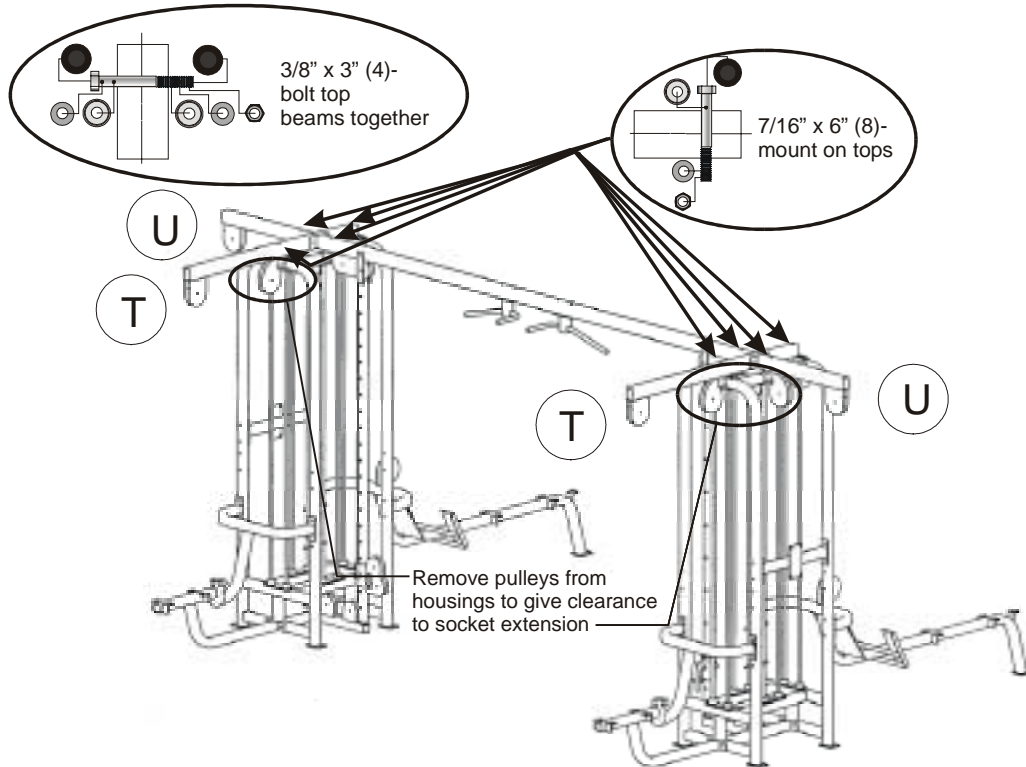
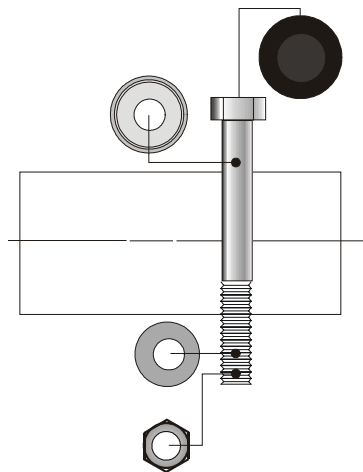

Figure 6. Mount lat tops and tricep tops.
Figure 7. Configuration for 6" bolts.
3. Using a 5/8" socket with extension and combination wrench, bolt on the connecting beam to the cubes using two of the large 7/16" x 6" bolts, 7/16" washers, and 7/16" nuts, end cap washers and end caps. Figure 6 shows the connected cubes.
- Using a 5/8" socket and combination wrench, mount the 56" lat tops (part T from *HARDWARE* section) to the cells by inserting two of the large 7/16" by 6" bolts using the hardware configuration shown in Figure 7. Mount the 29" tricep top (part U in *HARDWARE* section) and adjustable crossover top (part V in *HARDWARE* section) to the frame and connecting beam (See Figure 6). You will need to remove the pulleys from the teardrop pulley assemblies to gain clearance for the socket wrench extension. Leave the pulleys out of the housings until the cables have been installed.